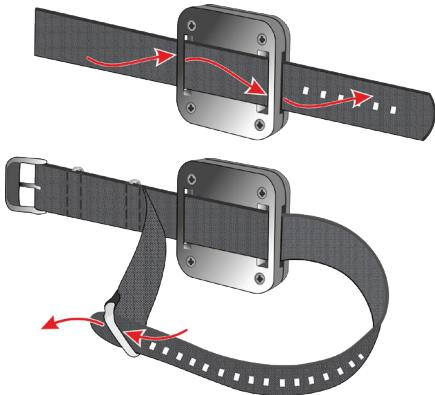

Fig. 2: Wrist strap installation
- Wrist placement like a wristwatch (Fig. 2).